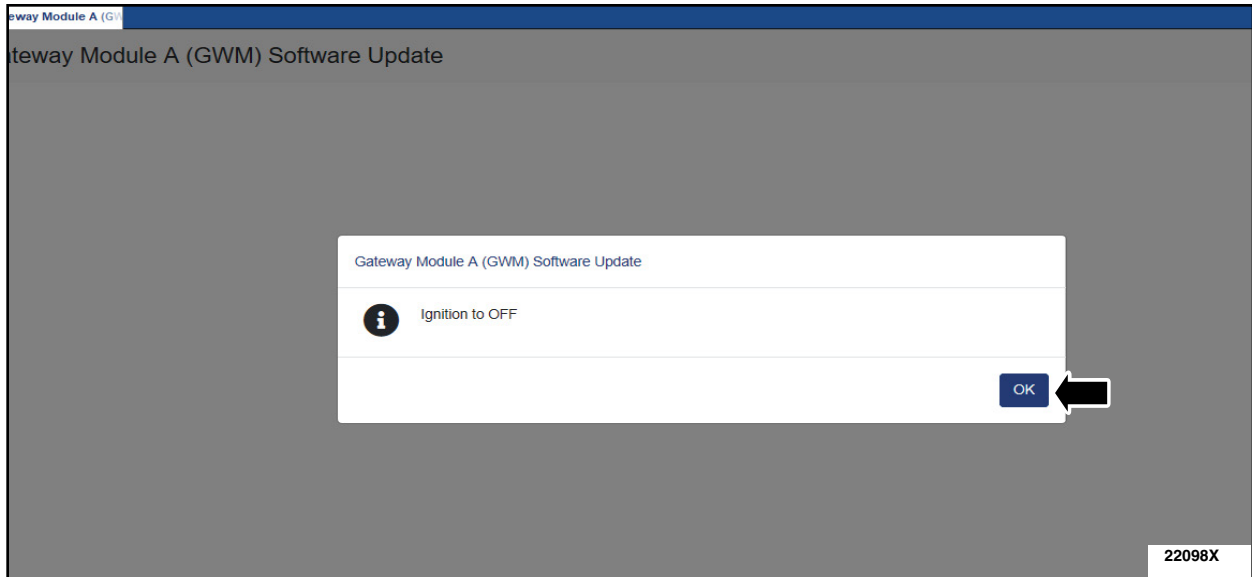

FIGURE 20
22. Turn ignition to off and click the OK icon on the FDRS screen. See Figure 20.